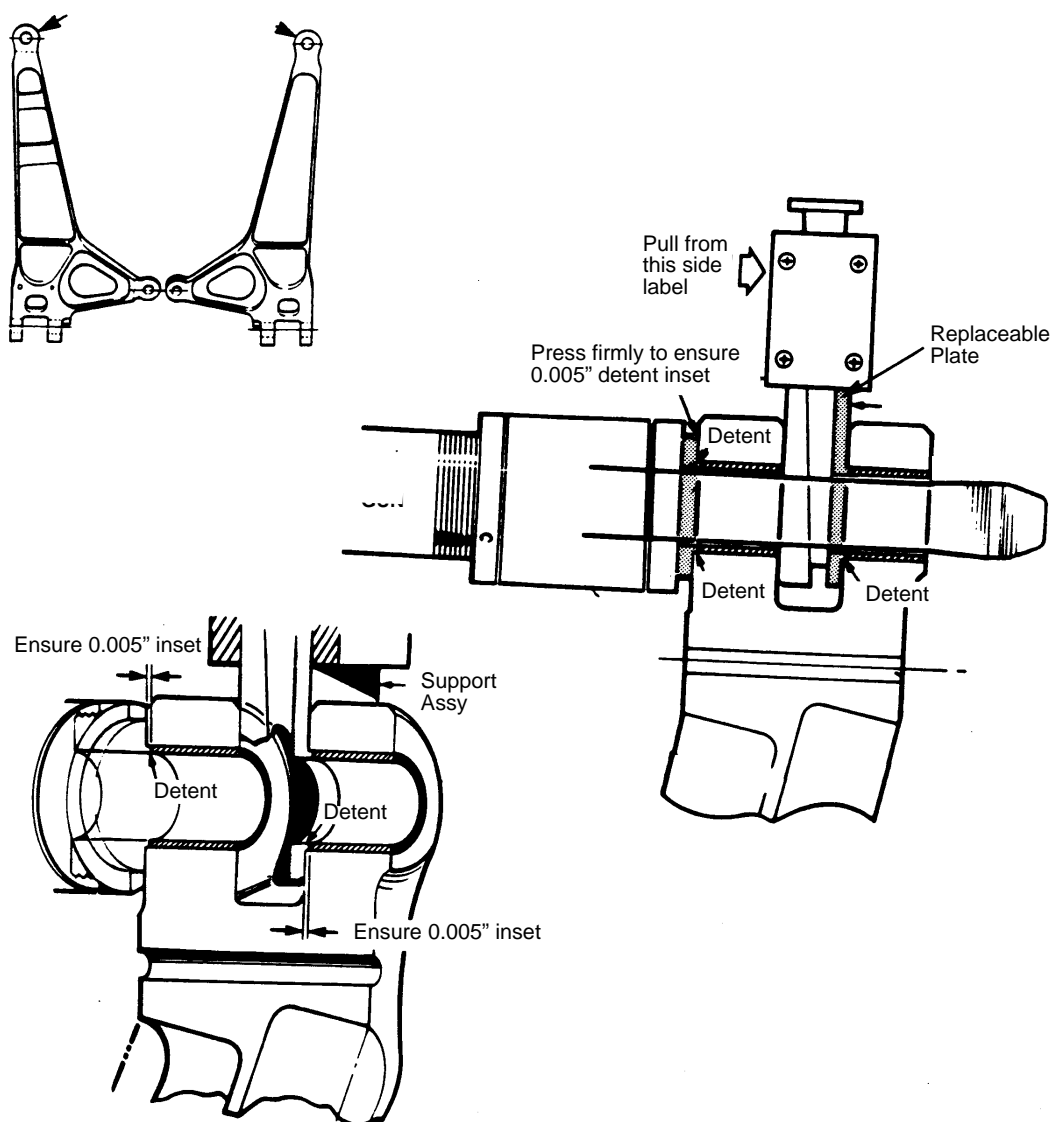

Figure 5 - Installation of DSC 398 Bushings
5.4.1.1 Install DSC 398 bushings as follows (see Figure 5):